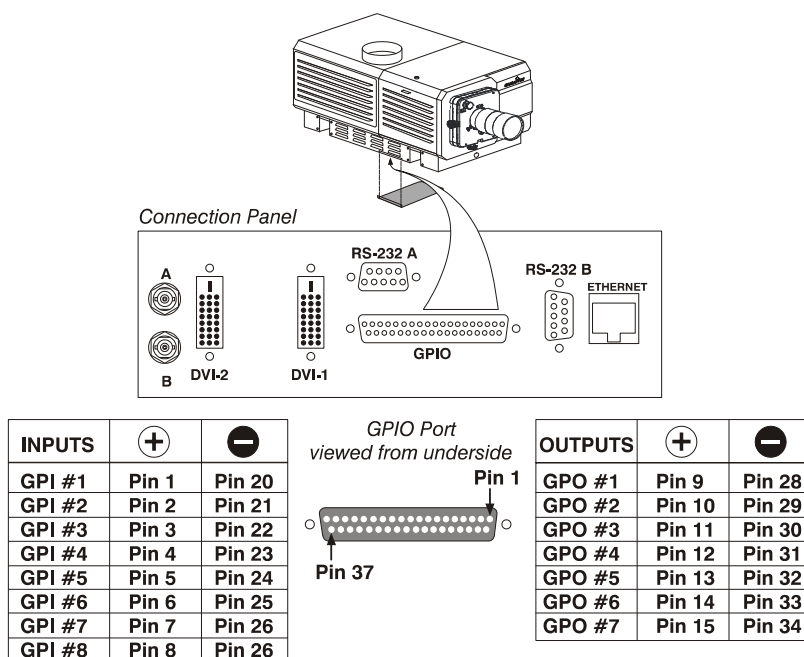
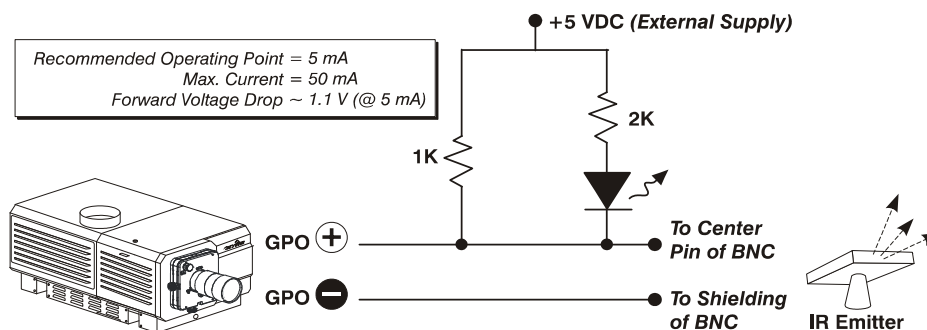

Figure C-1 GPIO Connector Pinouts
Figure C-2 Circuit for Power Supply
The 37-pin GPIO connector located on the underside of the projection head provides a flexible method of interfacing a wide range of external I/O devices to the projector, often so that an event on one device automatically triggers an event on the other. The pins on this connector that are configurable using the TPC's **Custom: 3D Control** menu are identified in **Figure C-1**. **NOTE:** Pins not shown in **Figure C-1** are reserved for other uses, and cannot be specified at the TPC.
If you are wiring your own GPIO cable for use with a server or 3D device such as an IR emitter or a polarizer, follow the circuit diagram in **Figure C-2**.
1. Assemble a cable according to guidelines shown in **Figure C-1** and **Figure C-2**.
3. In the TPC's **Custom 3D Control** menu, set **Output GPO** according to the pins wired in the GPIO cable (refer to **Figure C-1**). For instance, if you have wired pins #10 (+) and #29 (–) to your 3D device, set **Output GPO** to **GPO #2**.